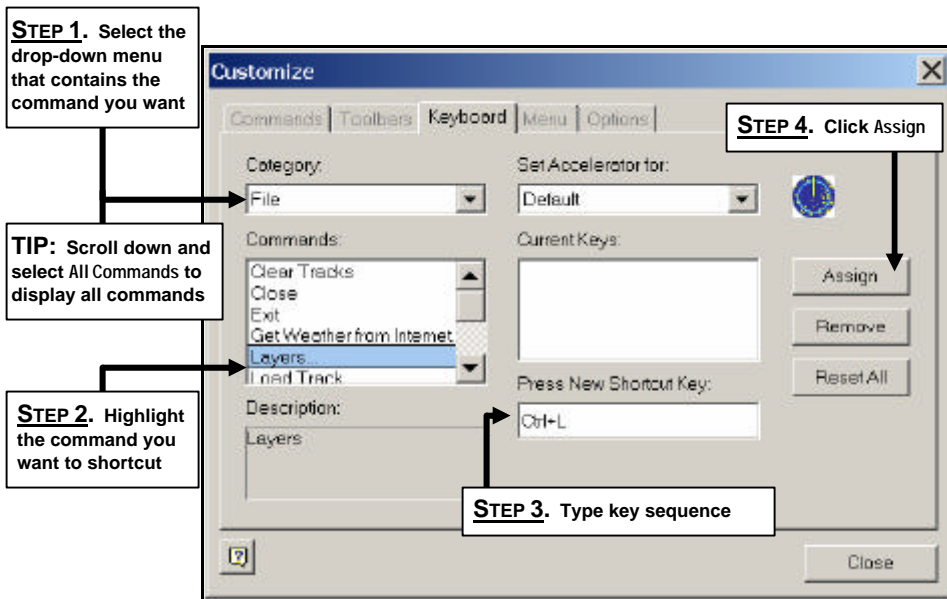

Figure 3-47. Customize Dialog Box Keyboard Tab
2. Click the **Keyboard** tab (Figure 3-47).